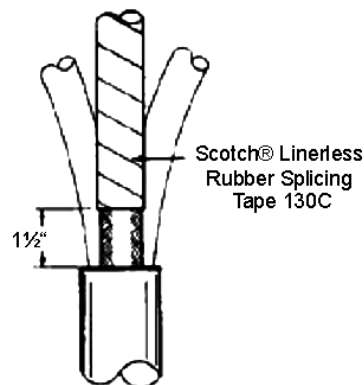

Figure 2
- 2.4 Starting 1½" (38 mm) from cable jacket (or armor), apply two highly elongated half-lapped layers of Scotch® Linerless Rubber Splicing Tape 130C over the shielding, leaving the end of the shielding exposed for the distance as indicated in the instructions for the termination device. (Figure 2)